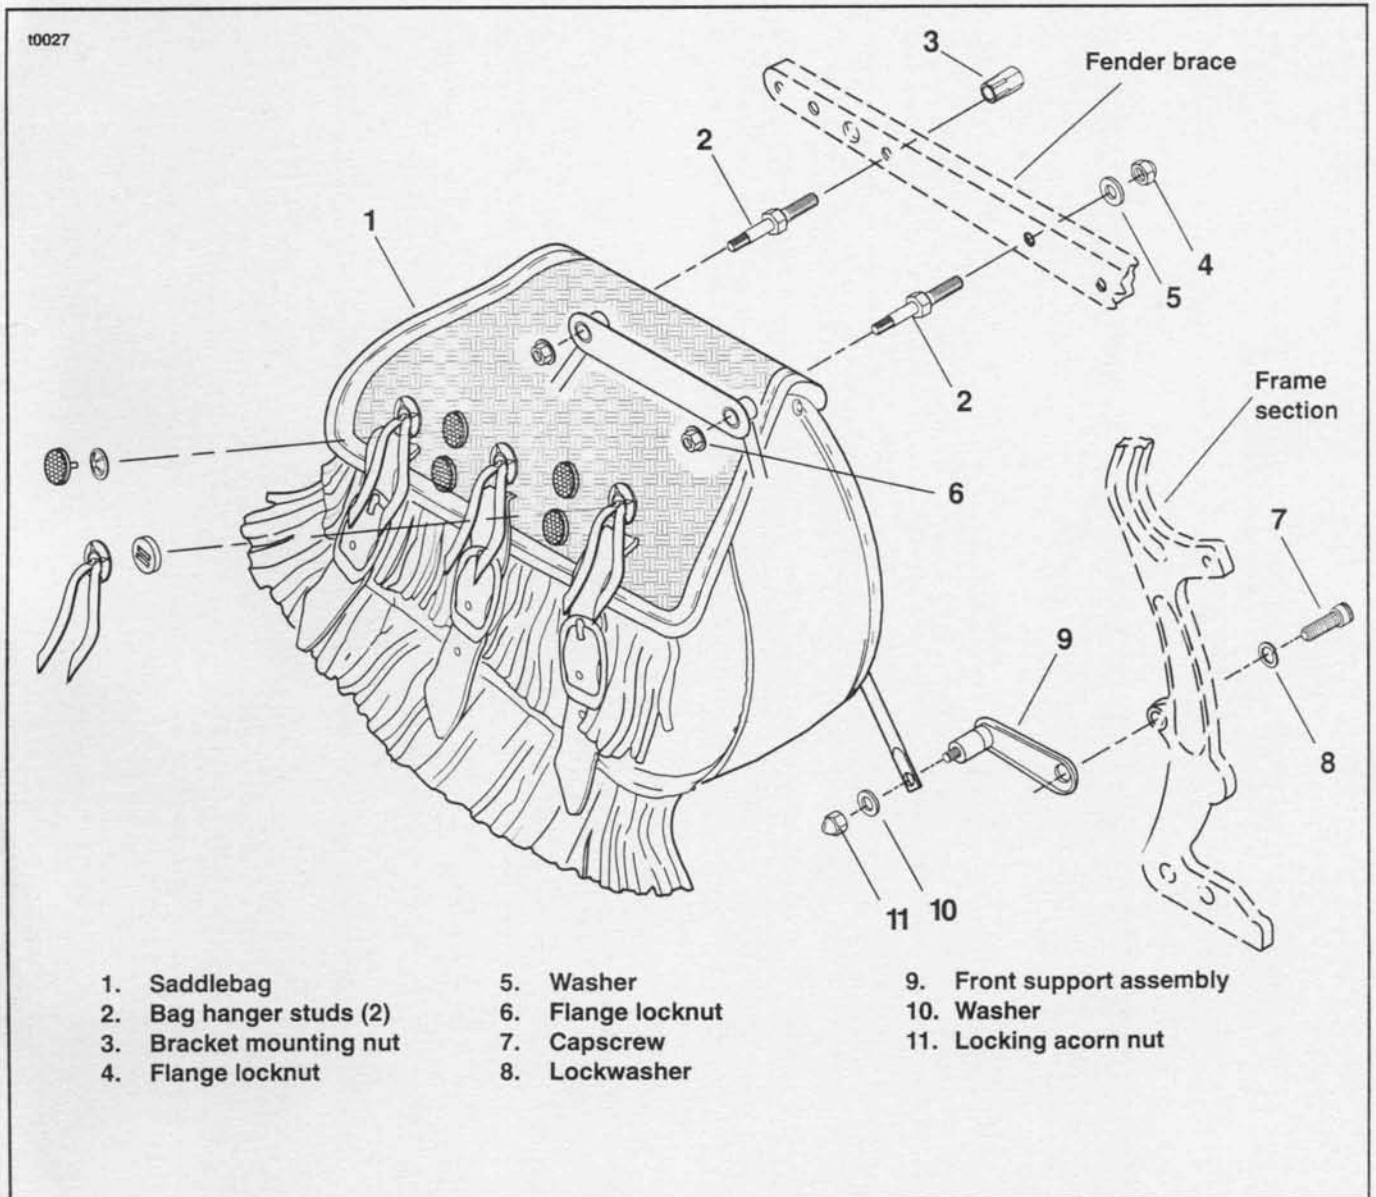

Figure 2-105. Saddlebags and Saddlebag Brackets - FLSTS
1. See Figure 2-105. Remove two flange locknuts (6).
2. Remove acorn nut (11) and washer (10).
3. Remove saddlebag (1).
1. See Figure 2-105. Place saddlebag (1) in position.
2. Install two flange locknuts (6).
3. Install washer (10) and locking acorn nut (11).